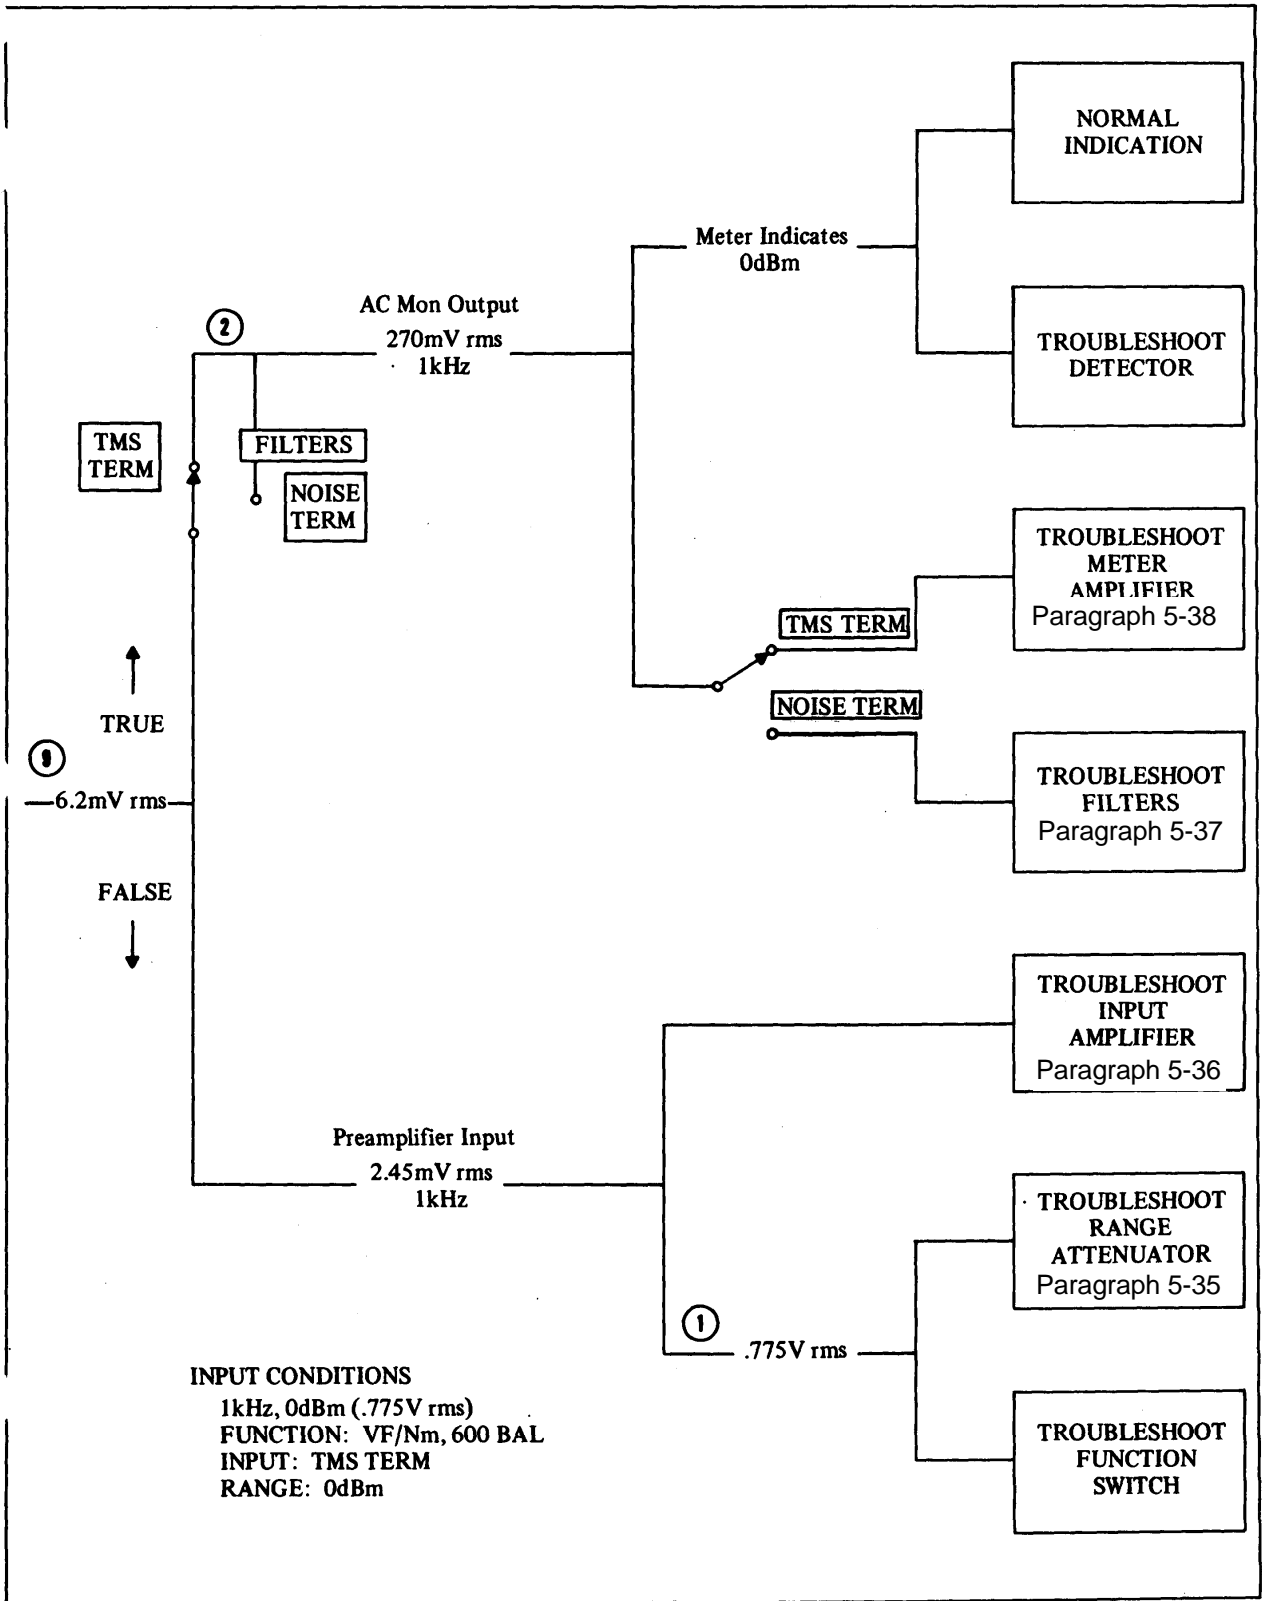

Figure 5-8. Troubleshooting Tree
- a. Troubleshooting Tree - - The troubleshooting tree (Figure 5-8) is based on the half-split method of troubleshooting a set. The trouble can be isolated to a general area or block using this tree. Once the trouble has been isolated to an area, a reference is given to a paragraph where more specific information can be found.
- a. Inject a 1kHz, 0dBm signal (.775V rms) into the 3555B and set the INPUT switch to TMS TERM, RANGE to 0dBm and the FUNCTION to VF/Nm, 600 BAL. Measure the signal at the input of the meter amplifier (XA3 pin 9). The signal level should be 6.2mV rms. If not the malfunction is ahead of the meter amplifier (refer to troubleshooting tree, Figure 5-8).